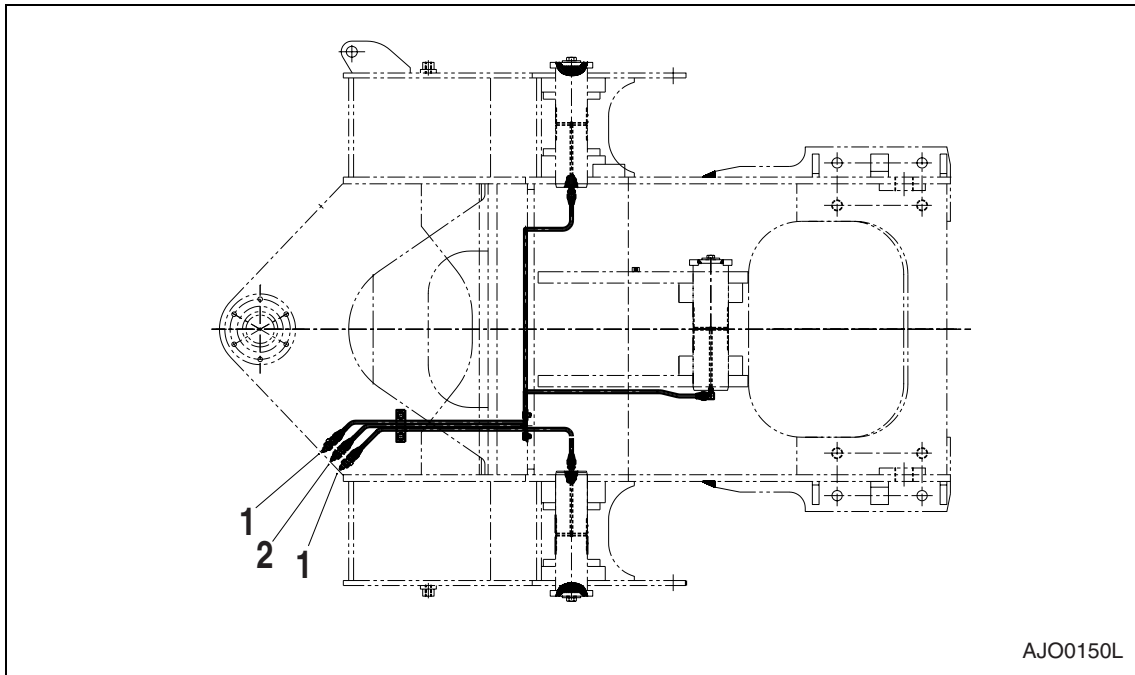

Figure 34
- 1) Loader arm foot ends, 2 locations on each side of machine. Greased from two remote grease points (1, Figure 34).
- 2) Bucket cylinder head, 1 point. Greased from remote grease point (2, Figure 34).